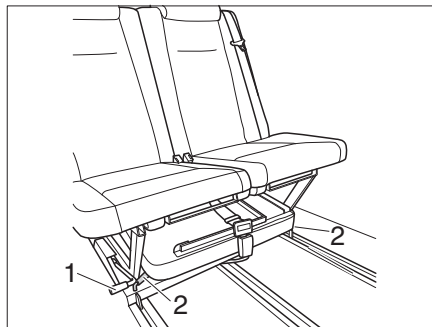
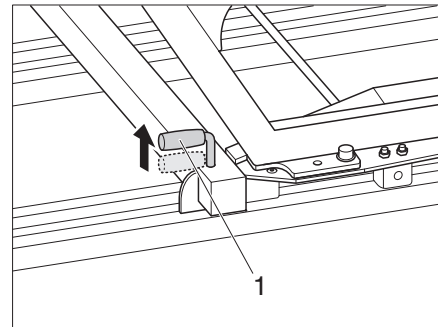

Fig. 8 Remove bench seat
Fig. 9 Catch lever
- Pull both locking levers (Fig. 8,2 or Fig. 9,1) upwards.
- Pull the positioning lever (Fig. 8,1) and carefully push the bench seat backwards until the seat can be lifted out of the rails.